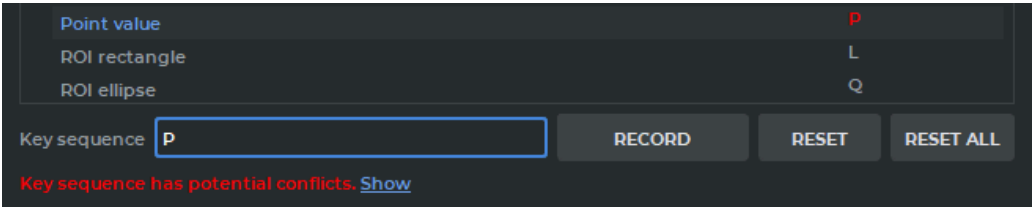
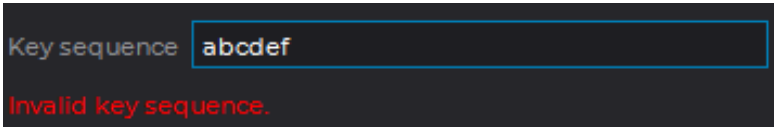

Figure 15.5: Warning about key sequence potential conflict
Figure 15.6: Warning about invalid key sequence
6. If the entered hotkeys are already used, a warning similar to the one shown in Fig. 15.5 will be displayed, and the value in the **Key sequence** column will be written in red. To see which action corresponds to this hotkeys, click **Show**. Do not set the same hotkeys for the actions performed in one window. If the entered value cannot be set, a warning similar to the one shown in Fig. 15.6 will be displayed.